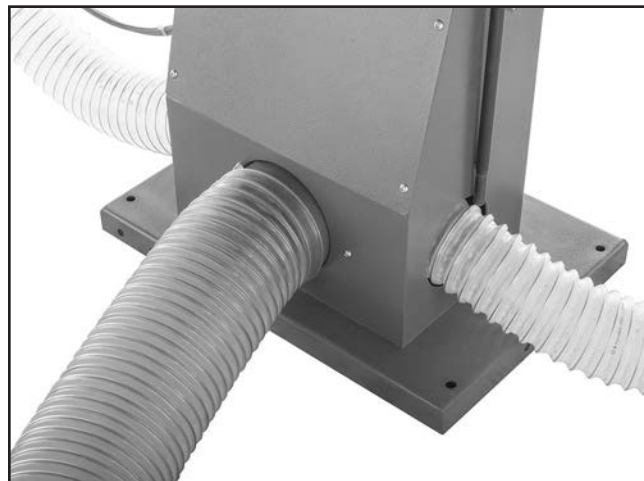

Figure 26. Dust hose attached to 6" dust port.
1. Fit 6" dust hose over 6" dust port, as shown in **Figure 26**, and secure in place with hose clamp.